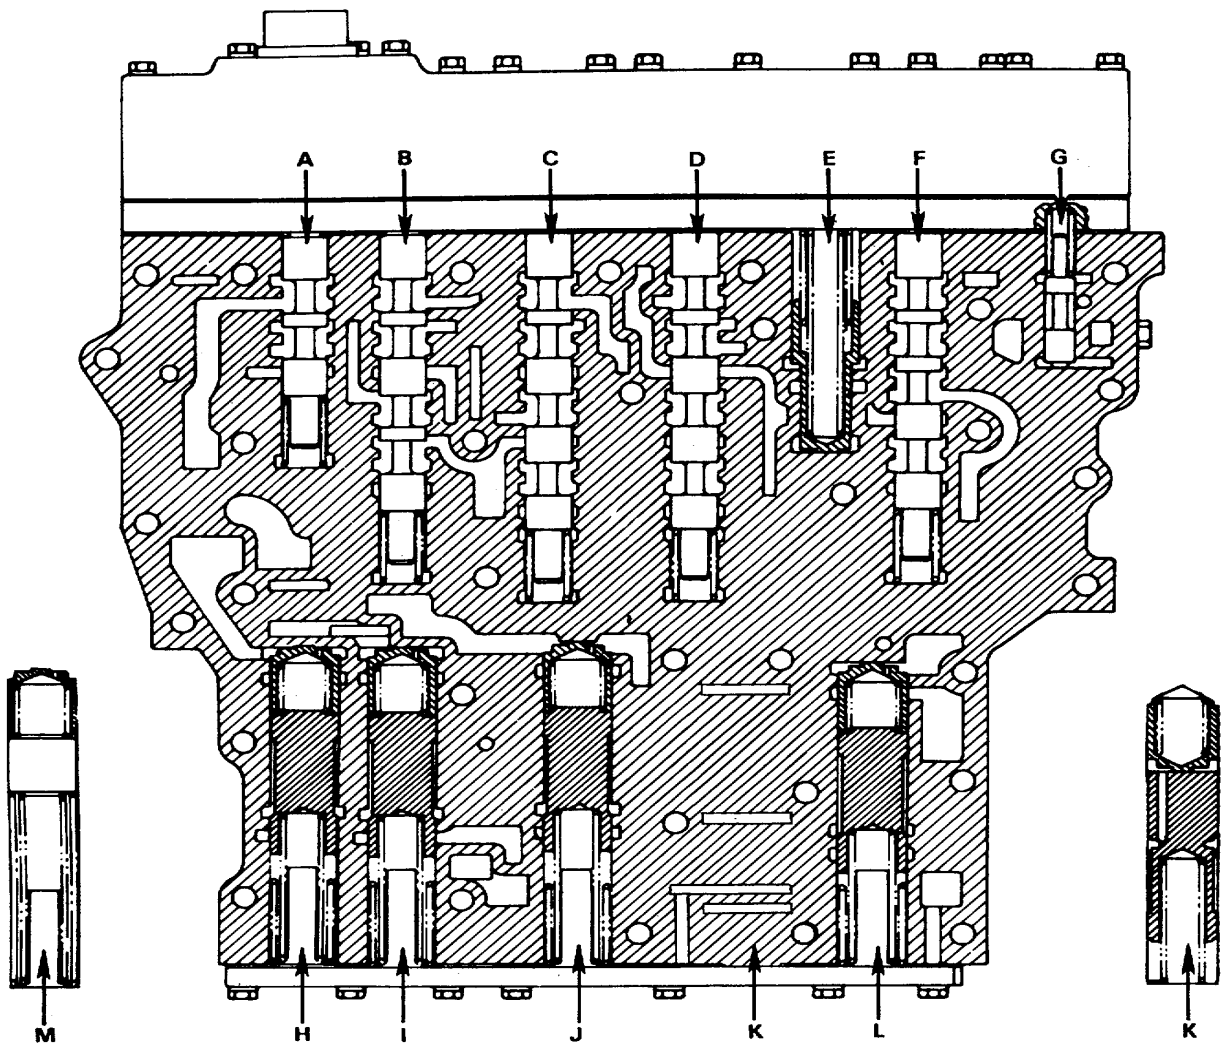

Figure 15-91. Valve Body, with Components Installed in Each Bore
- 12. Install reverse-shift valve spring 34 and valve 32 into bore A (Figure 15-91).
- 13. Install first-and-second-gear shift valve spring 31 (B, Foldout 9) and valve 30 into bore B (Figure 15-91).
- 14. Install third-and-fourth-gear shift valve spring 28 (B, Foldout 9) and valve 29 into bore C (Figure 15-91).
- 15. Install fifth-and-sixth-gear shift valve spring 27 (B, Foldout 9) and valve 26 into bore D (Figure 15-91).
- 16. Install priority valve 23, outer spring 25, and inner spring 24 into bore E (Figure 15-91).
- 17. Install splitter shift valve spring 22 and valve 21 into bore F (Figure 15-91).
18. Install solenoid pressure regulator valve 20 and spring 19 into bore G (Figure 15-91).
22. Install reverse trimmer upper valve 67 (B, Foldout 9) into bore H (Figure 15-91). Into the same bore, install spring 68, reverse trimmer lower valve 69, outer spring 71, inner spring 70, and stop 72.
23. Install first-and-second-gear trimmer upper valve 66 into bore I (Figure 15-91). Into the same bore, install spring 65 (B, Foldout 9), first-and-second-gear trimmer lower valve 64, outer spring 62, inner spring 63, and stop 61.
24. Install third-and-fourth-gear trimmer upper valve 55 into bore J (Figure 15-91). Into the same bore, install spring 56 (B, Foldout 9), third-and-fourth-gear trimmer lower valve 57, outer spring 59, inner spring 58, and stop 60.
25. Install splitter-direct trimmer upper valve 45 into bore L (Figure 15-91). Into the same bore, install spring 46 (B, Foldout 9) splitter-direct trimmer lower valve 47, outer spring 49, inner spring 48, and stop 50.